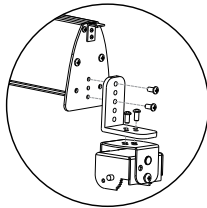

figure 5
5. Attach the "L" Bracket to the end-plate of the Extender Arm (figure 5).